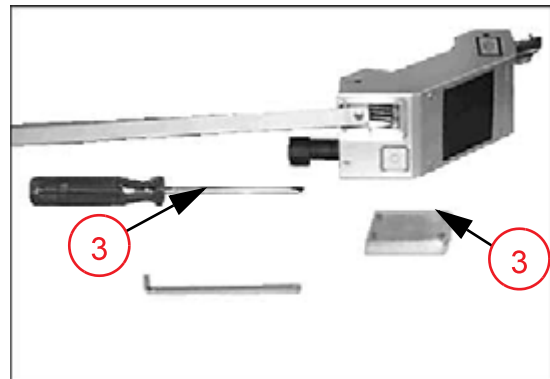

Fig. 2: I.I. tension band
- Loosen the clamping screws (3/Fig. 2 / p. 5) using the Allen key.